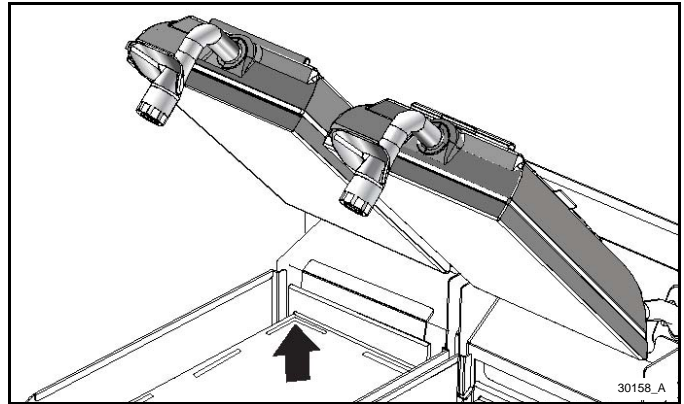

Figure-120
27. To clean the lower plate sides, raise the lower platen. See Figure-120.